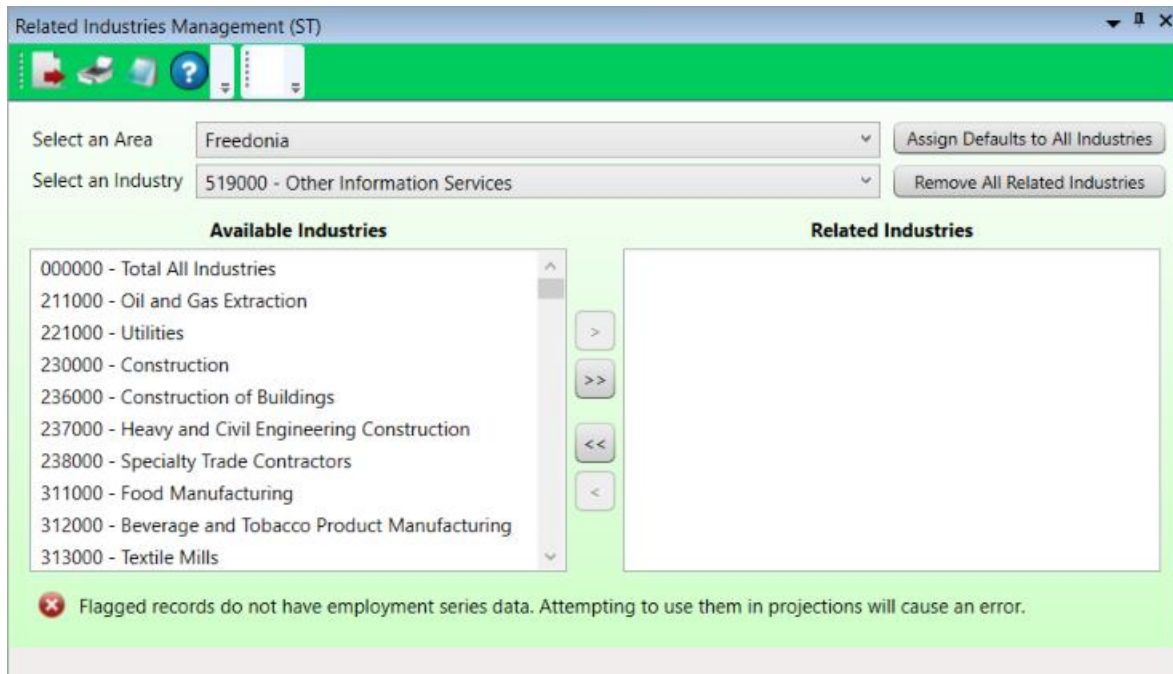

Figure 3: Available Industries are displayed
1. **Select an Area** and Industry from the drop-down menus. The available industries for those choices display in the **Available Industries** table. In Figure 3, you can see that no default industries have been assigned to (an example) industry **519000 - Other Information Services** in the **Related Industries** table.